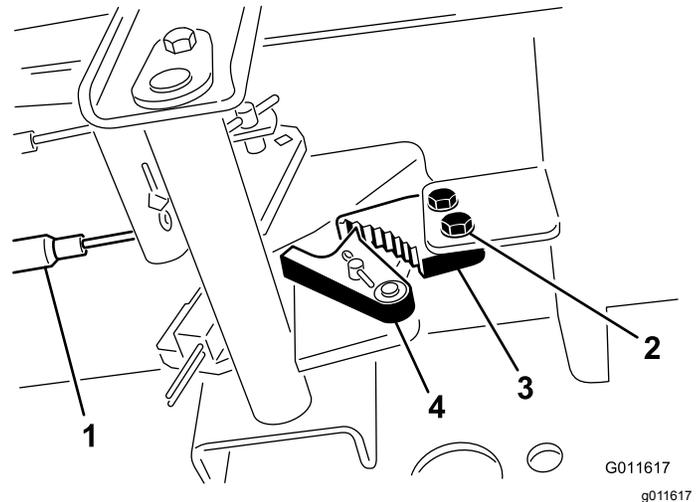

Figure 88
1. Loosen the 2 screws securing the parking-brake pawl to the frame (Figure 88).
2. Press the parking-brake pedal forward until the brake detent completely engages on the brake pawl (Figure 88).